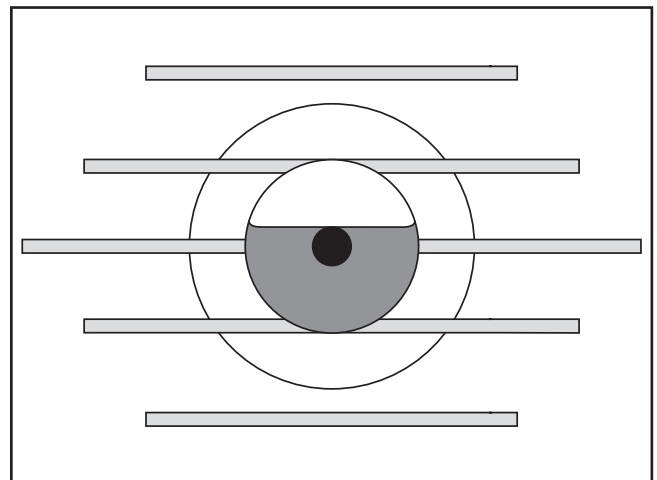

Figure 23. Correct pump oil level in the viewport.
- Remove the oil cap and fill with SAE 30 oil. Add oil slowly and check the level frequently. The pump is full when oil is just past the red dot, covering the lower $\frac{2}{3}$ of the viewing port (**Figure 23**). Do not overfill.